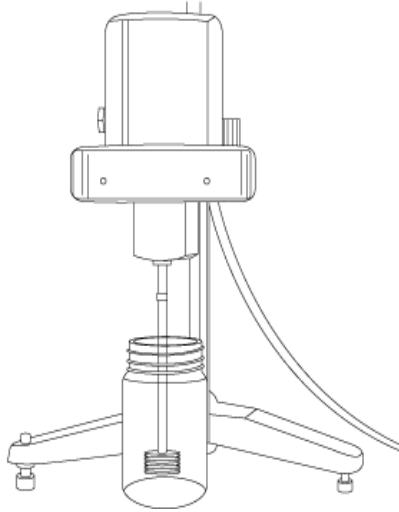

Figure 10/I.A7—Brookfield Viscometer.
- 2) Brookfield Viscosity—Equipment for this test includes Brookfield Model LV and RV viscometers and spindles (see Figure 10/I.A7). The procedure is as follows:
- b) The thixotropic index (TI) is the ratio of the viscosities at low shear (6 RPM) divided by higher shear (60 RPM).